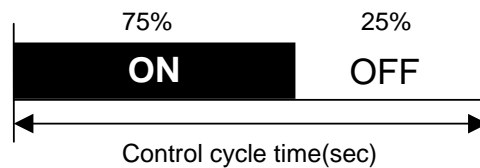

Fig 3.4.4 Pulse control output at MV = 75%
- The control cycle time set operates like fig 3.4.4.